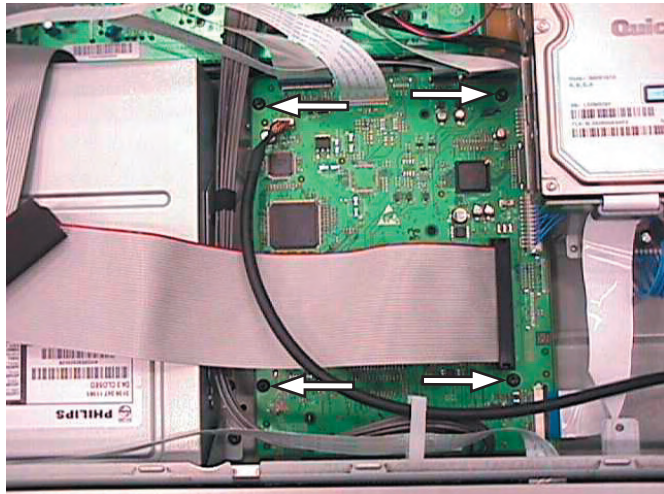

Figure 4-5: Digital Board
- 1) Remove 4 screws to loosen the Digital Board as shown in Figure 4-5.